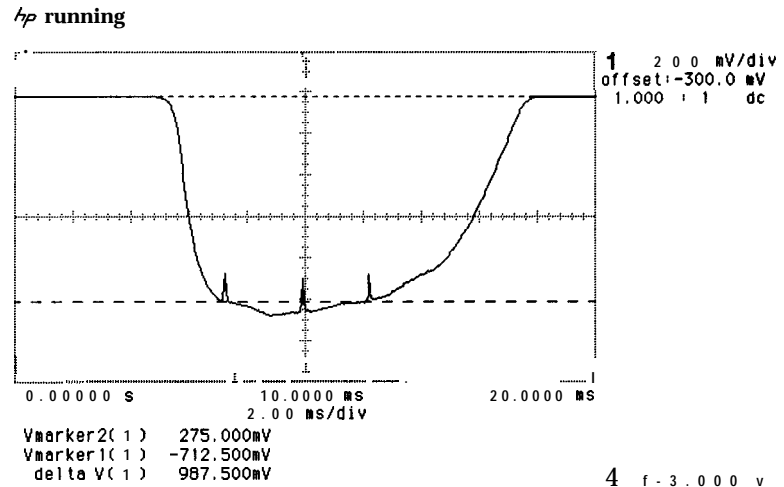

Figure 3-74. Sampler Waveform at A11A5TP1
36. The A11A5TP1 SAMPLER DC waveform displayed on the oscilloscope should be similar to Figure 3-74. The left, middle, and right vertical spikes visible on the voltage waveform correspond to synthesized sweeper marker frequencies of 160 MHz, 187 MHz, and 210 MHz, respectively. Adjust A11A5C2 to widen the waveform as far to the left as possible.
38. On the oscilloscope, press $\Delta T \Delta V$, and turn on the voltage markers for the Channel 1 input. Place one voltage marker at the level of the 160 MHz (left) and 210 MHz (right) markers, and place the second voltage marker at the maximum voltage level of the displayed waveform, as shown in Figure 3-74. The voltage level of the displayed waveform between the 160 MHz and 210 MHz markers should be a minimum of 0.50 Vdc lower than the maximum voltage level.